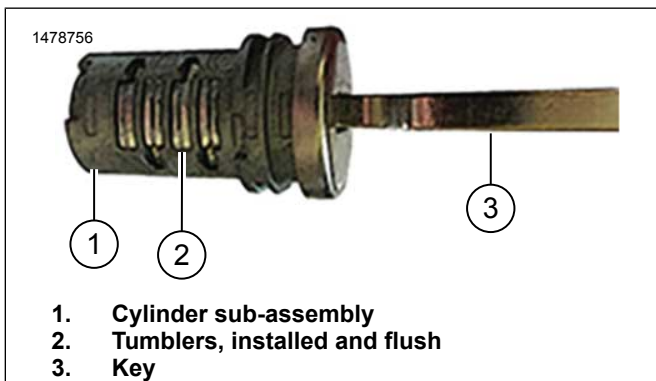

Figure 6. Assembled Lockset
- See Figure 6. While holding tumblers fully in place, install key in assembled cylinder sub-assembly.